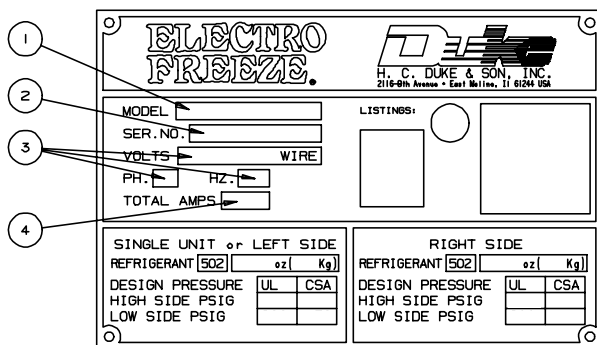

Figure 4-1
1. Always verify electrical specifications on the data plate (figure 4-1) of each individual freezer. Data plate specifications will always supersede the information in this manual.
3. Always check and verify voltage and amperage on the data plate (figure 4-1) located on the back panel of each freezer.
Fill in the following information as soon as you receive the *Electro Freeze CS5*. (The item numbers — encircled, below — correspond with the callout numbers in figure 4-1.)